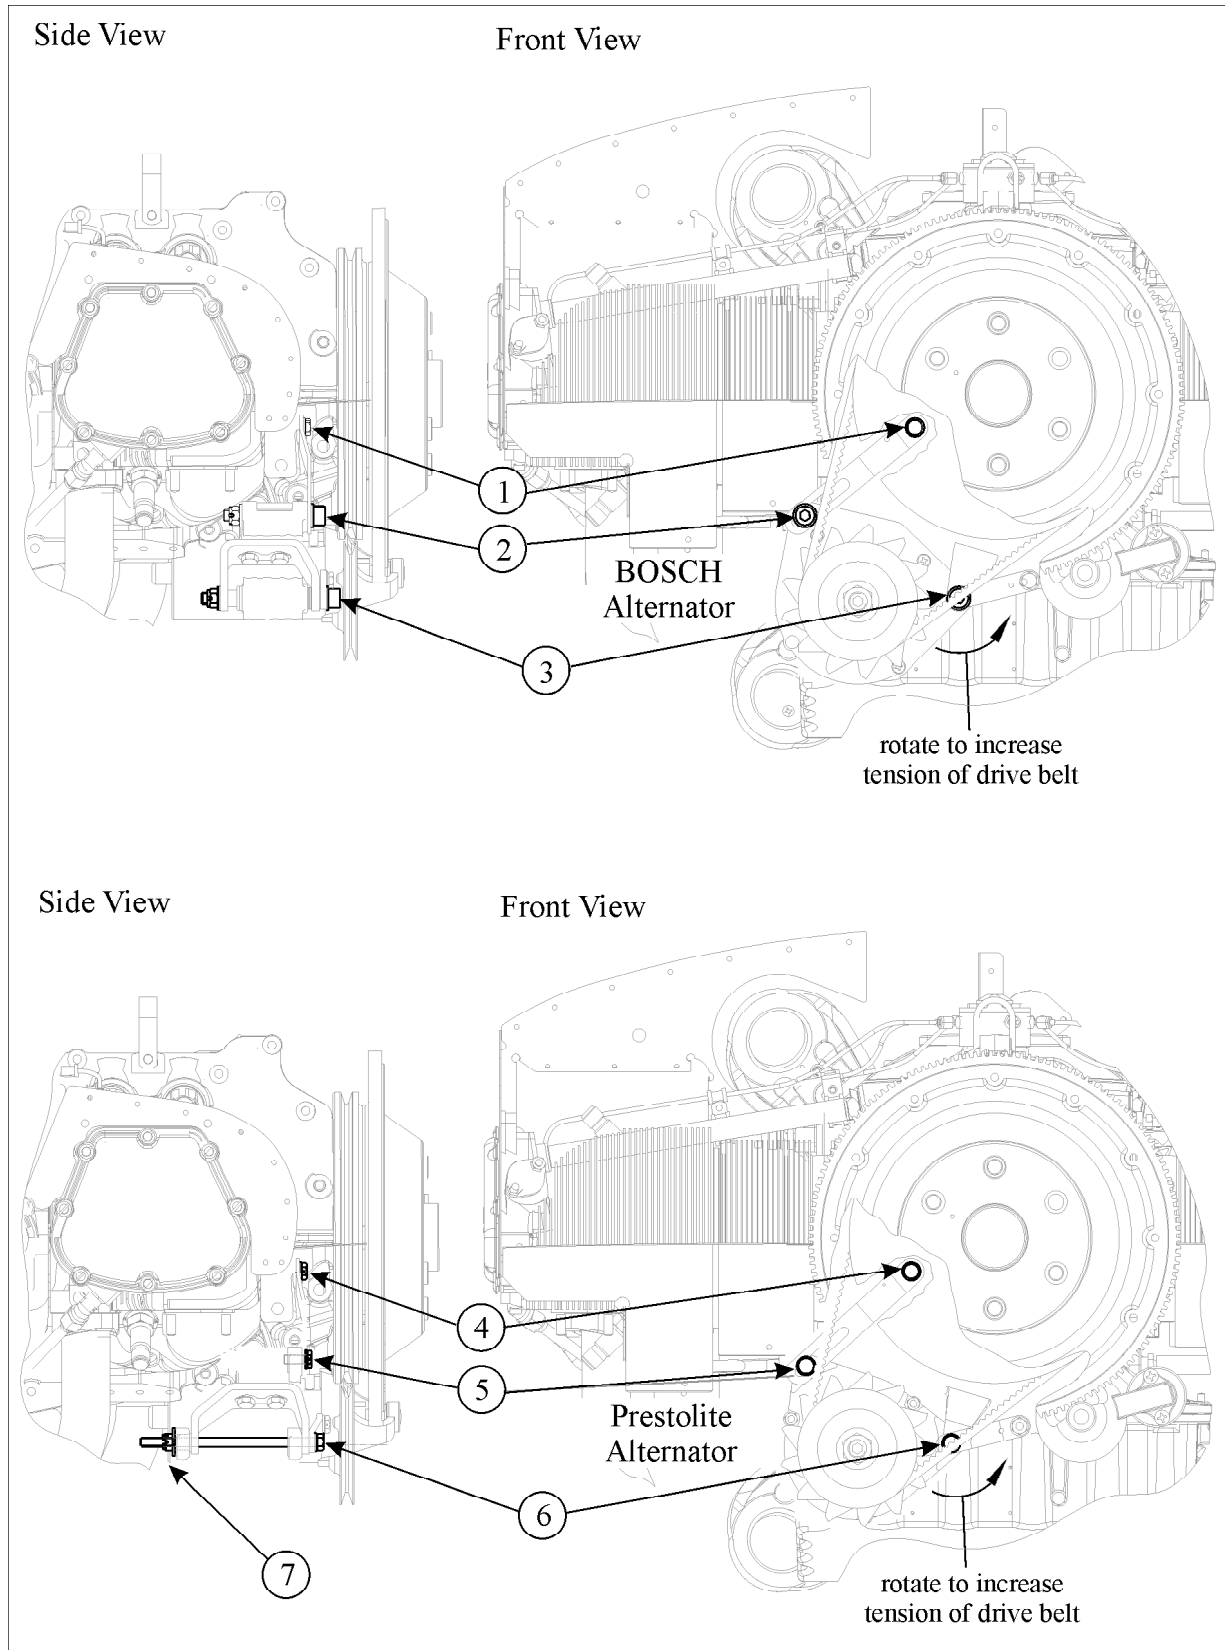

Figure 1
- 3a (Bosch) Remove cotter pins at castle nuts (2 & 3, Figure 1) and safety wire at bolt (1).
- 3b (Prestolite) Remove cotter pin at castle nut (7, Figure 1) and safety wires at bolts (4 & 5).
- 4a (Bosch) Slightly loosen bolt (1) and castle nuts at bolts (2 & 3) to release drive belt tension.
- 4b (Prestolite) Slightly loosen bolts (4 & 5) and castle nut (7) to release drive belt tension.
- 5 Rotate the alternator clockwise around bolt connection (3).
- 7b (Prestolite) Remove castle nut (7) and pull bolts (5 & 6) for removal of the alternator from the attachment.
Refer to Figure 1.
Therefore do not torque castle nut (7, Figure 1) to the standard value for M8 bolts. Hand tighten castle nut (7) followed by max. one half (1/2) turn using a wrench just enough to eliminate axial free play of the bolt (6) and align nut and bolt for the clevis pin position.
- 2 Apply a proper tension to the drive belt by counter-clockwise rotating the alternator around bolt connection (3/6, Figure 1).
- 4a (Bosch) Remove cotter pins at castle nuts (2 & 3, Figure 1) and safety wire at bolt (1).
- 4b (Prestolite) Remove cotter pin at castle nut (7, Figure 1) and safety wires at bolts (4 & 5).
- 5a (Bosch) Slightly loosen bolt (1) and castle nuts at bolts (2 & 3) to release drive belt tension.
- 5b (Prestolite) Slightly loosen bolts (4 & 5) and castle nut (7) to release drive belt tension.
- 11 Apply a proper tension to the drive belt by counter-clockwise rotating the alternator around bolt connection (3/6, Figure 1).